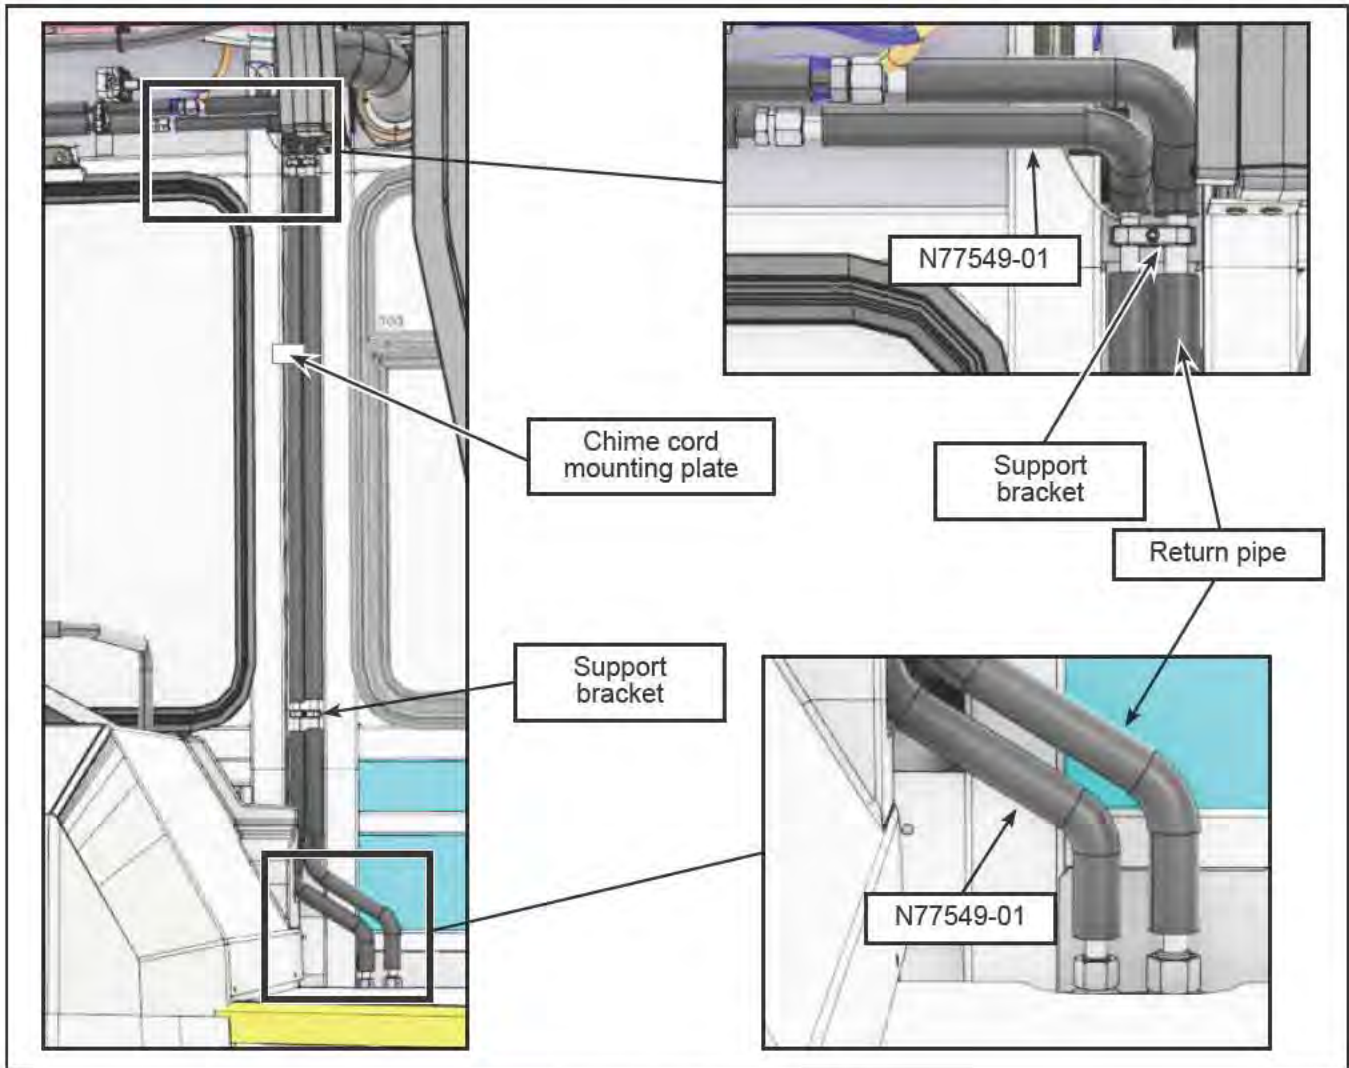

Figure 5 - Hydraulic Pipe N77549-01
- Locate hydraulic pipe N77549-01 (Figure 5).
- In order to remove the hydraulic pipe N77549-01, it is necessary to first remove the return hydraulic pipe located next to it because of the presence of the chime cord mounting plate (Figure 5).